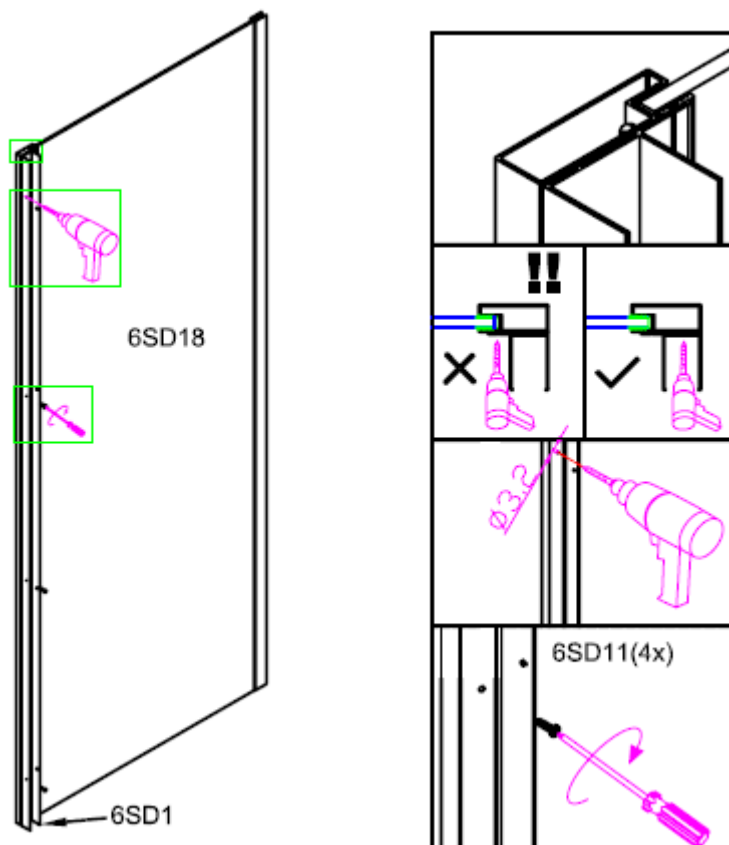

Figure 5
5. Screw the left wall profile to the side panel(6SD18) ,as showed in figure 5.